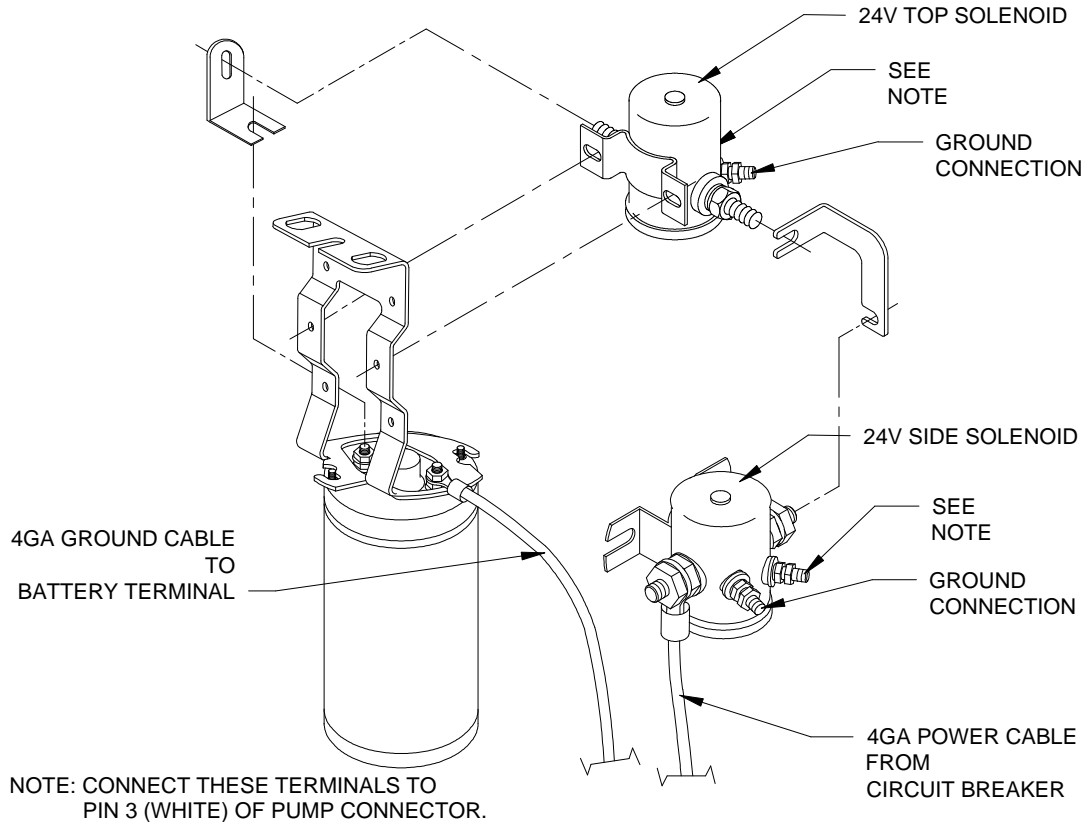

FIGURE 2-13: 24VDC DUAL SOLENOID WIRING
- 2) Refer to **Figure 2-13**. The ground cable is routed from the negative stud (-) on pump motor to the negative battery terminal.